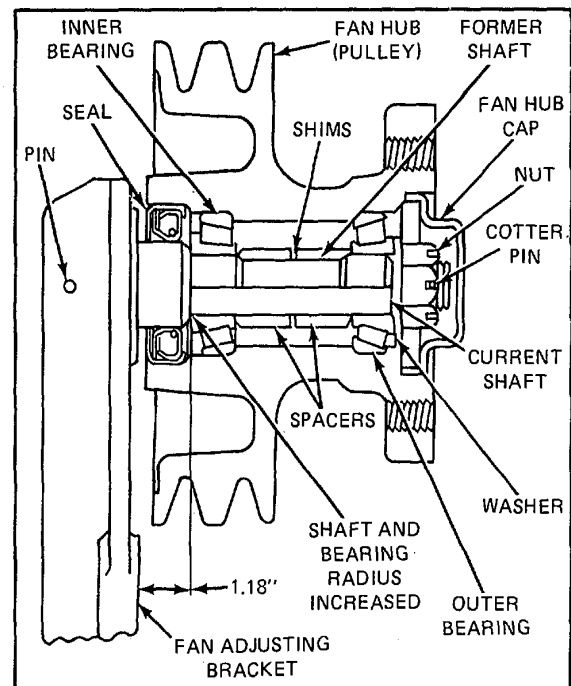
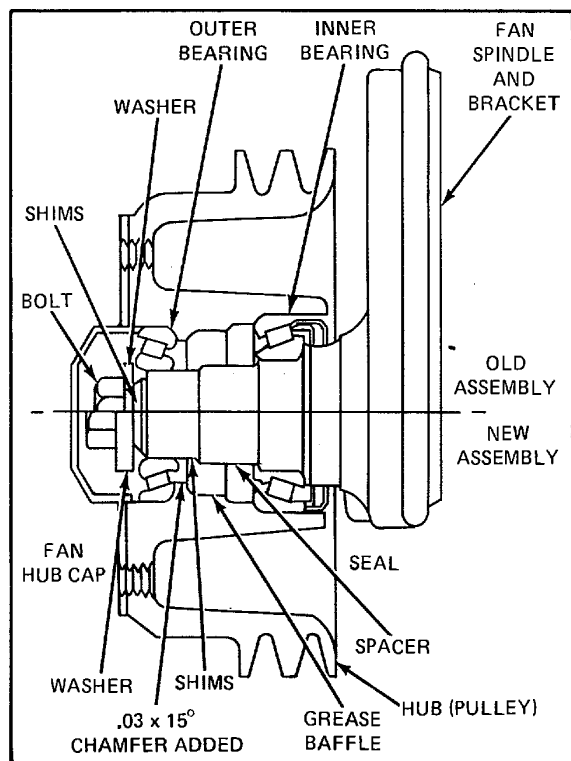

Figure 5. Shaft-Type Fan Hub Assembly
Figure 6. Spindle-Type Fan Hub Assembly
2. Remove the hub retaining cotter pin, nut and washer (Fig. 5) or the bolt and special washer (Fig. 6 and 8). Also remove the shims if the former type fan hub assembly illustrated in Fig. 6 is used.
5. Remove the bearing spacer (Fig. 6 and 7) and shims (if the current-type hub assembly is used).
The fan hub assembly illustrated in Fig. 5 has been revised. The revisions consist of an increase in the bearing inner race and shaft bearing radii, a hardened hub-retaining nut and washer, and the addition of spacers and shims on the shaft between the bearings. This type fan hub assembly should be rebuilt with the current parts, especially where the former undercut shaft is used. The current spacers and shims cannot be used with the former shaft.
To replace the shaft, remove the groove pin and press the shaft from the adjusting bracket. Press the new shaft in the bracket to the dimension shown in Fig. 5. Then drill the shaft, using the hole in the bracket as a guide, and install a groove pin.
The spindle-type fan hub assembly illustrated in Fig. 6 has also been revised. A bearing spacer has been added and a new outer bearing, which provides a closer fit on the shaft, replaces the old. A baffle has also been added to retain the grease and assure lubrication at the outer bearing. To facilitate installation of the grease baffle, a 0.030 inch by 15° chamfer has been added to the bore in the pulley.
Assemble the fan hub and spindle shown in Fig. 5 as follows: